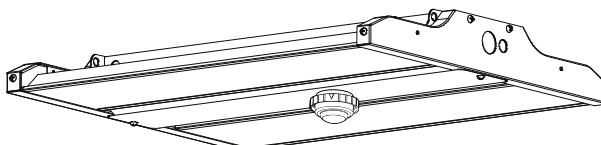

FIG. 4
HLS-PMKIT2 (1.4FT and 1.9FT models)**Fig. 1****Fig. 2****Fig. 3****Fig. 4****Fig. 5**
4. Rotate the outer ring until the arrows align (see FIG. 4).